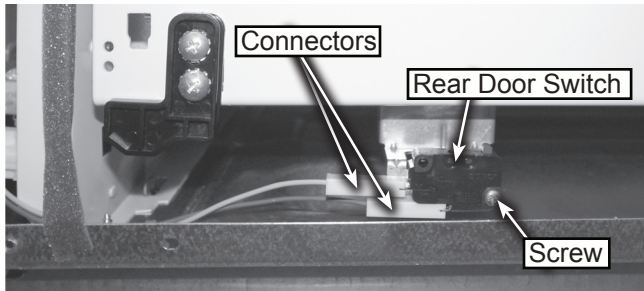

Figure 5
- 9. Remove the connectors and one screw to replace, see figure 5.